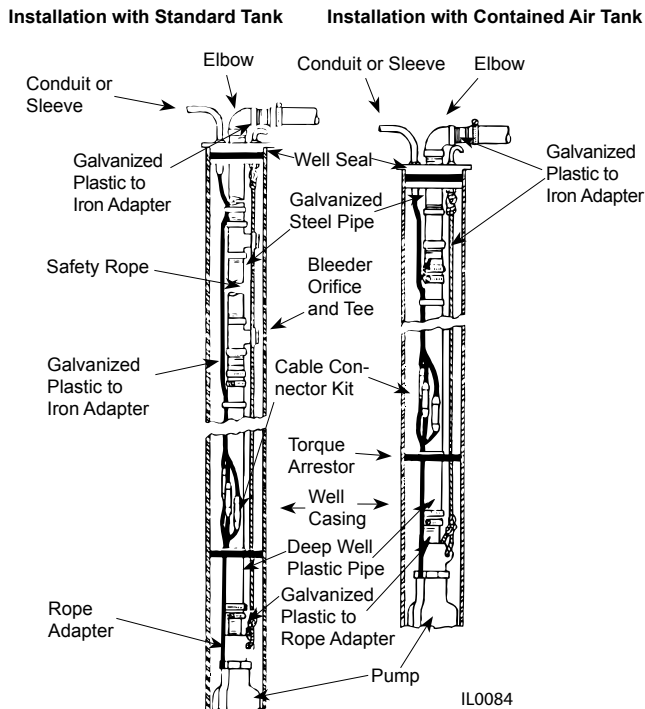

Figure 14
4. Illustrations of the two piping systems in the well are shown (Figure 14).